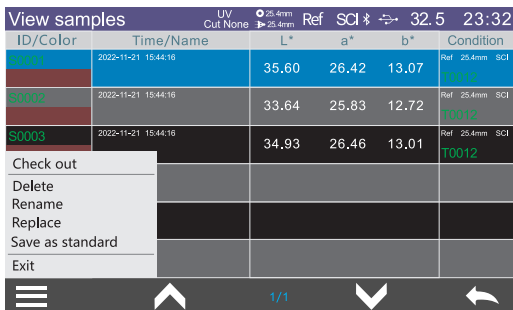

Figure 40 View samples
(2) Check Sample Record
(3) Click  to view the sample interface menu and then click "View sample" to switch to the sample record interface to view the sample record corresponding to the standard sample. In the sample recording interface, you can click  to return to the standard sample recording interface, as shown in Figure 39 and Figure 40